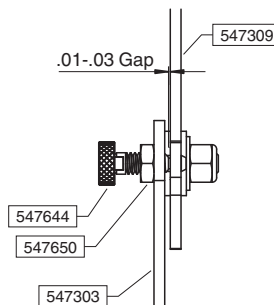

Figure 4.2 Shield lock gap adjustment
2. Using one retractable plunger (2x #547644) per side, inert jam nuts (2x #547650) onto the plunger threads then install into threaded hole on shield side plates. Apply Included Loctite 243 (#547659) to the threads of the plungers. Adjust the depth such that the thread end of each plunger (the nose when the plunger is retracted) leaves a .03"-.05" gap from the shield sides as shown. Tighten jam nuts to 30in-lb to secure in place. Refer to Figure 4.2.